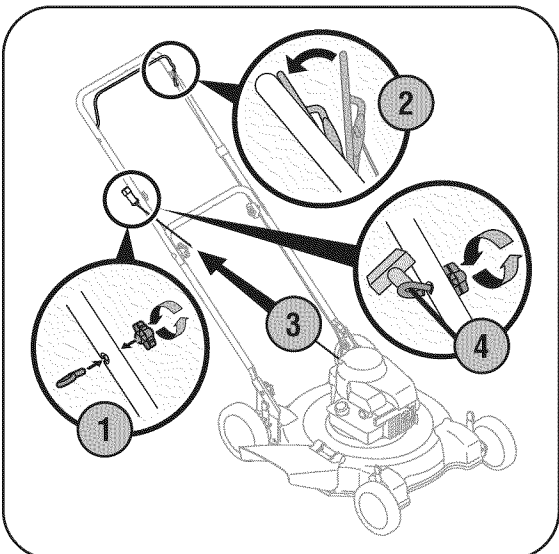

Figure 3-10: Secure the recoil starter.
1. Loosely attach the rope guide to the outside of the upper handle and thread the wing nut only a few turns. See Figure 3-10. Do not tighten.
4. Slip the rope through the rope guide as shown in Figure 3-10. Tighten the wing nut to secure the rope guide.